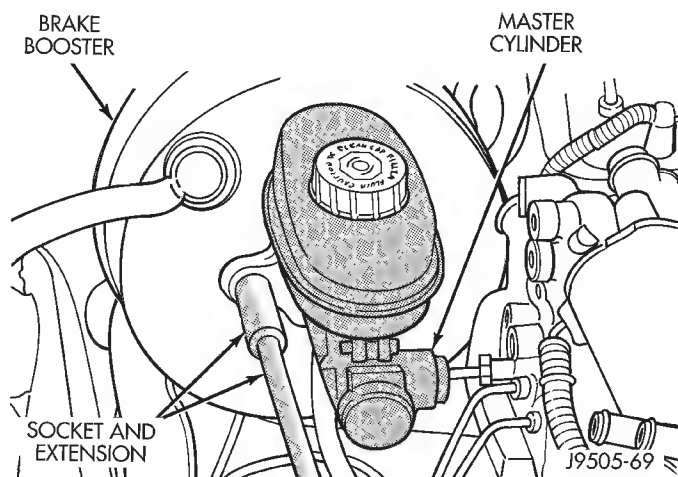

Fig. 16 Master Cylinder Attaching Nut Removal
(17) Remove nuts attaching master cylinder to booster studs and remove cylinder (Fig. 16).
(18) Remove master cylinder reservoir cap and drain fluid.